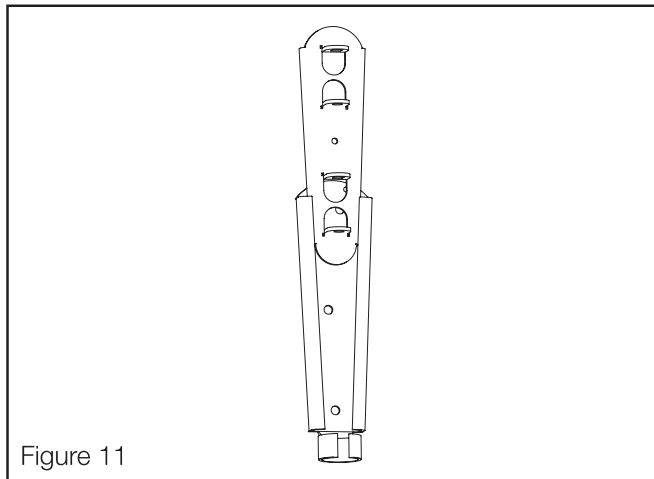

Figure 11
1. Using a second person for assistance, carefully slide the mount with your TV attached into the Wall Plate (see Figure 11).